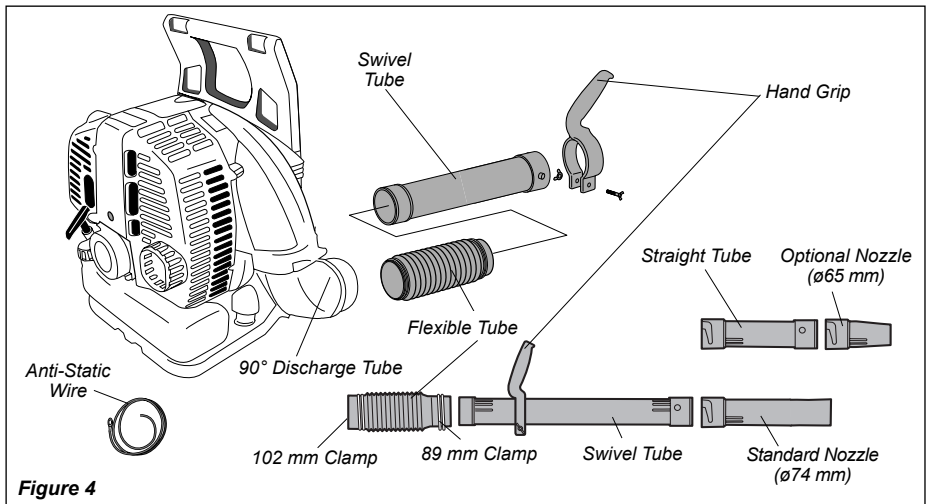

Figure 4
1. Place the blower upright on the ground or a sturdy work surface and note parts orientation as shown in Figure 4.